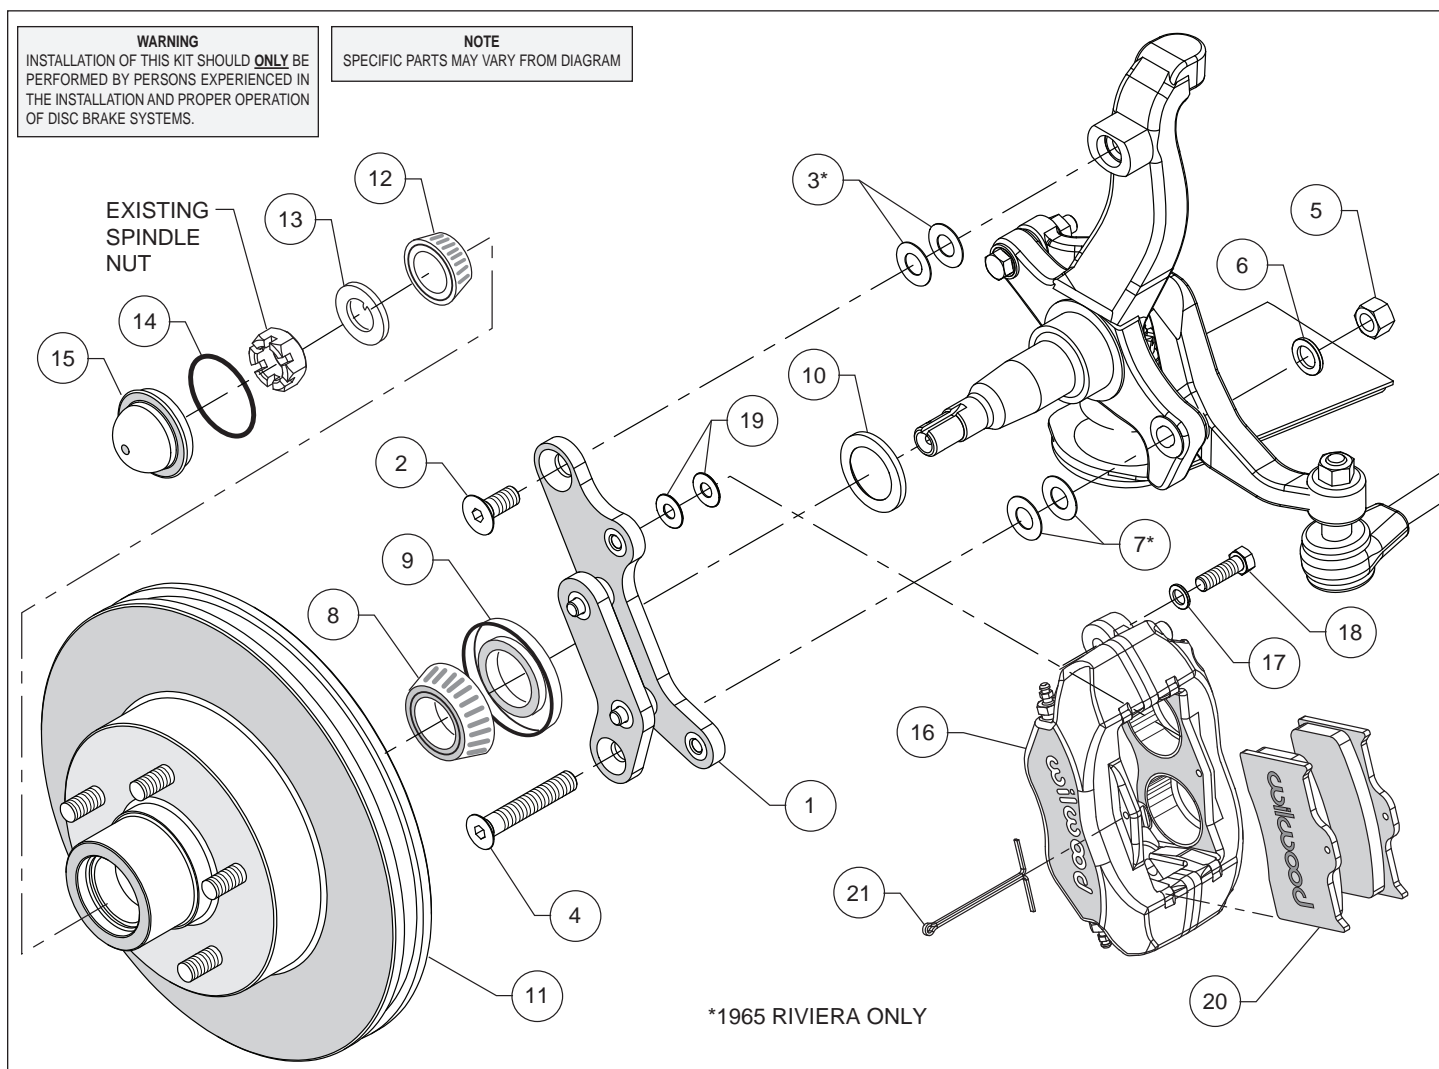
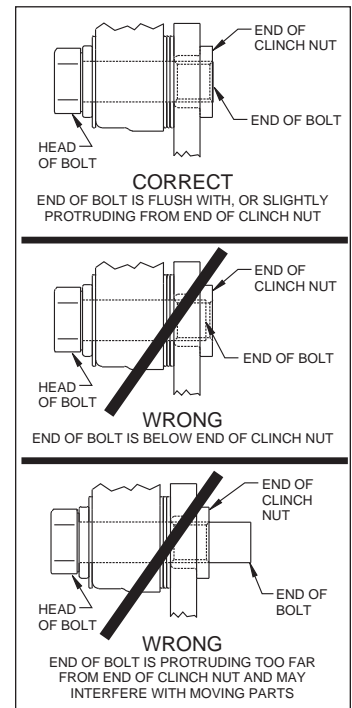

Figure 1. Typical Installation Configuration
Figure 3. Clinch Nut Engagement Diagram
Assembly Instructions (numbers in parenthesis refer to the parts list, on the preceding page and Figure 1): **CAUTION:** All mounting bolts must fully engage clinch nuts. Be sure to check that all bolts are either flush or protruding through flanged side of clinch nut after shimming, Figure 3.
- The caliper mounting bracket (1) has been assembled at the factory for alignment purposes. Loosen the two bolts that secure the brackets together so that the bolts are hand tight only, this will enable the bracket assembly to be adjusted to accommodate various spindle tolerances during assembly. Orient the caliper mount bracket as shown in Figure 1, and install using bolts (2 and 4), nuts (5), and washers (6), Figure 1. **NOTE:** Shims (3 and 7) are to be used only on 1965 Riviera applications, Photo 1. Ensure that the flanged heads of the clinch nuts in the bracket are facing outboard. Temporarily tighten the mounting bolts. **NOTE:** The bracket must fit squarely against the mount bosses on the upright. Inspect for interference from casting irregularities, machining ridges, burrs, etc.
- Pack the small outer bearing cone (12) with high temperature disc brake bearing grease and install into hub (11). Slide the hub/rotor onto the spindle. Secure using spindle washer (13) and OEM spindle nut. Adjust bearings by tightening the wheel bearing nut to 60 **in-lbs.** while turning the hub/rotor assembly. Back off the adjusting nut one slot and install a new cotter pin (not supplied). **The resulting adjustment should be zero (no pre-load to 0.003 inch end play).**
- Install the o-ring (14) onto the dust cap (15). Press the dust cap into the hub (11).
- NOTE:** Please reference the caution statement at the beginning of the assembly instructions. Mount the caliper (16) onto the caliper mounting bracket (1) using bolts (18) and washers (17), as shown in Figure 1. Initially place two .035" thick shims (19) on each bolt between the caliper and the bracket, Photo 4. Temporarily tighten the mounting bolts and view the rotor (11) through the top opening of the caliper. The rotor should be centered in the caliper, Photo 5. If not, adjust by adding or subtracting shims between the bracket and the caliper. Always use the same amount of shims on each of the two mounting bolts. **NOTE:** The end of each bolt must be flush with or slightly protruding from the head of the clinch nut, as shown in Figure 3. If necessary place spare shims between washer (17) and caliper mounting ear to achieve the proper clinch nut engagement. Once the caliper alignment and clinch nut engagement are correct, remove the bolts one at a time, apply red *Loctite*® 271 to bolt threads, and torque to 40 ft-lb.